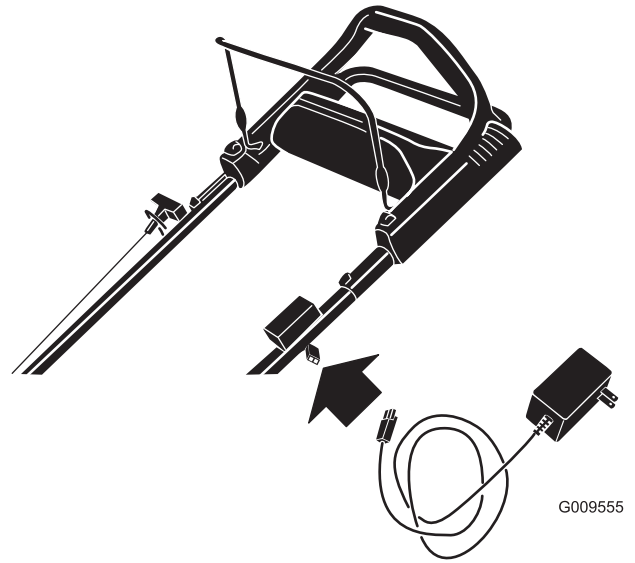

Figure 34
1. Connect the charger to the machine wire harness located below the electric-start button (Figure 34).